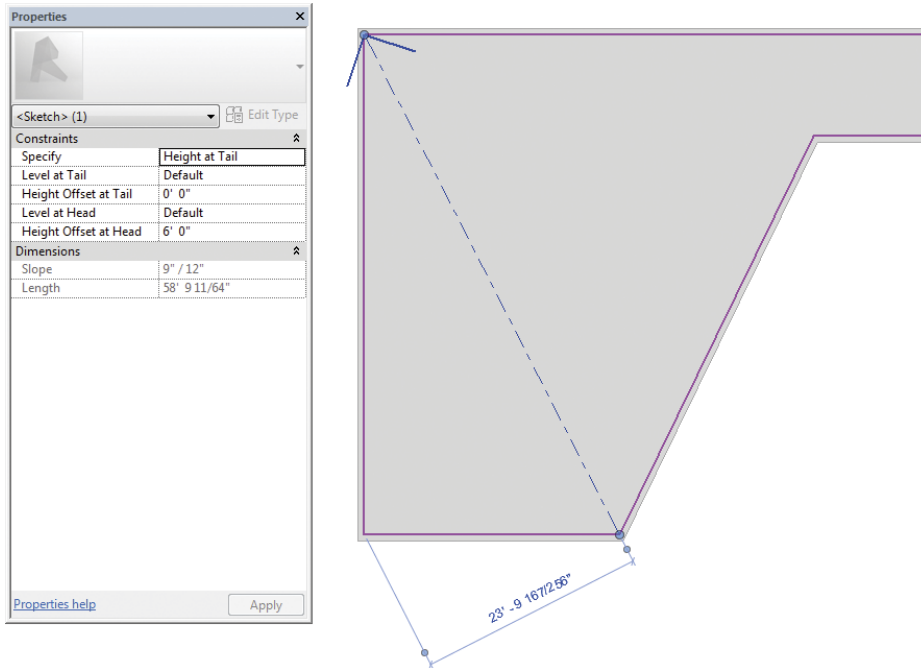

FIGURE 3.23 Sloping the roof
2. The tail of the slope arrow must reside on the boundary of the sketch, but the head of the slope arrow may point in practically any direction. Select the **Slope Arrow** tool on the **Draw** panel, and add a slope arrow as shown in Figure 3.23. Note that the **Height Offset at Head** value is set to 6' (2000 mm).
3. Make sure you uncheck the **Defines Slope** option for the edges of the roof to see the full effect of using the slope arrow (Figure 3.23).